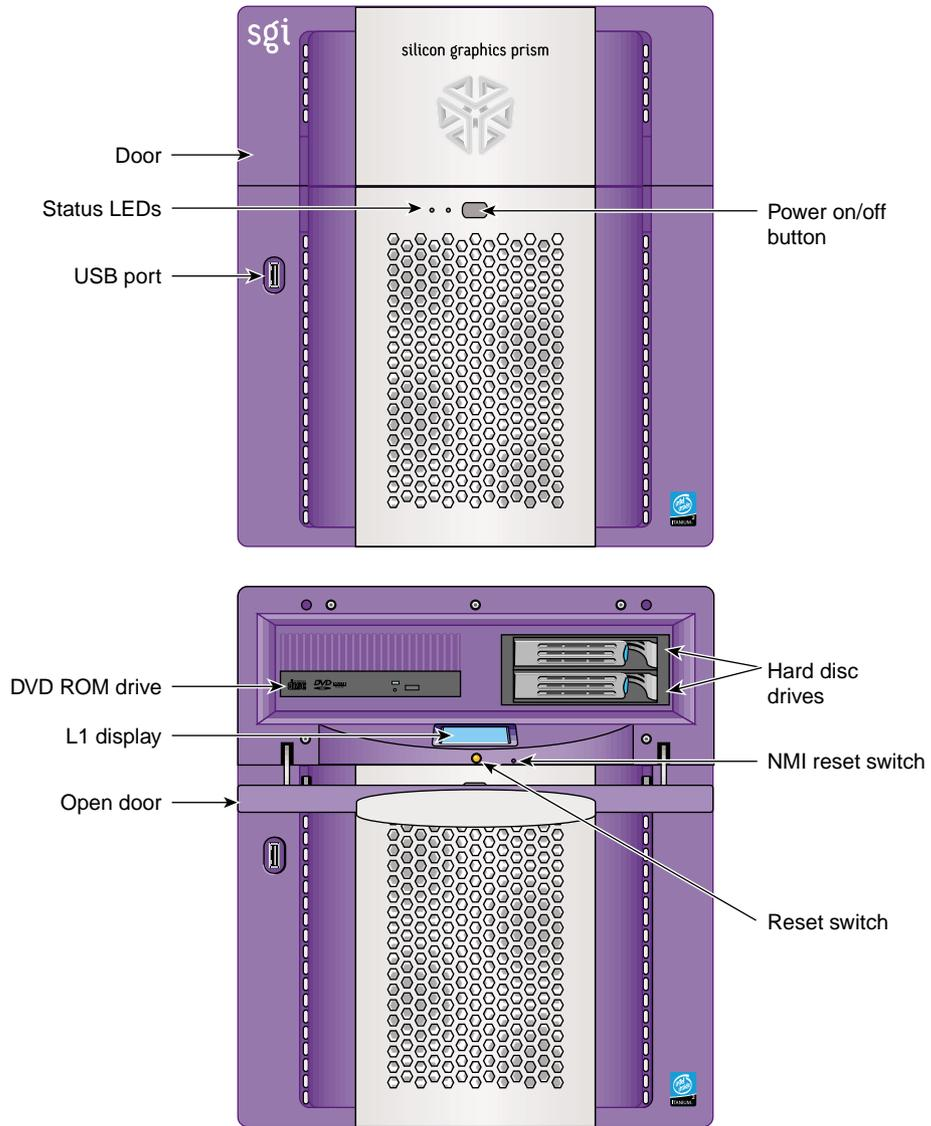

Figure 1-3 Front View of the System
- Figure 1-3, which shows the front view of the system.
The front panel of the enclosure (see Figure 1-3 on page 6) has the following controls and indicators: